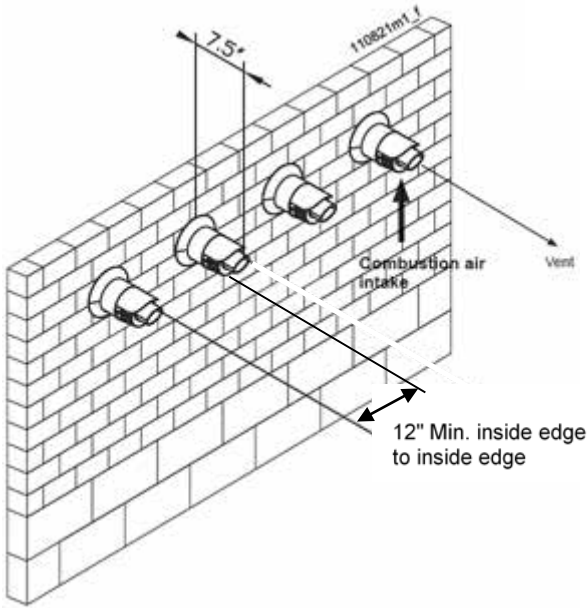

Figure 9-16
When two (2) or more direct vent appliances are vented near each other, each appliance must be individually vented (see Figure 9-16). NEVER common vent or breach vent this appliance. When two (2) or more direct vent appliances are vented near each other, two (2) vent terminations may be installed as shown in Figure 9-16. It is important that vent terminations be made as shown to avoid recirculation of flue gases.